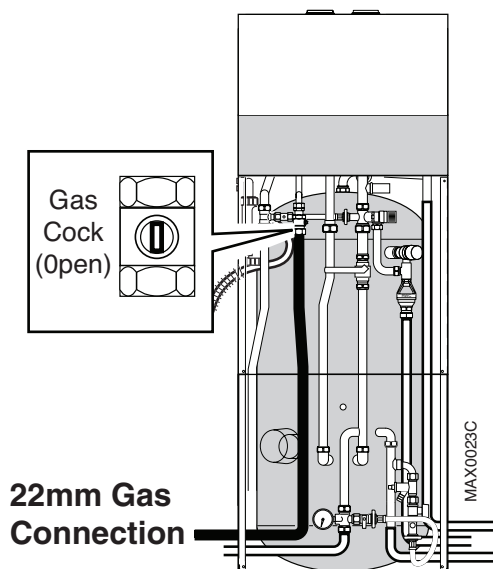

Fig. 20
2. Using a suitable open ended spanner or screwdriver turn the square on the gas tap to the left to isolate the gas supply (Fig. 20).